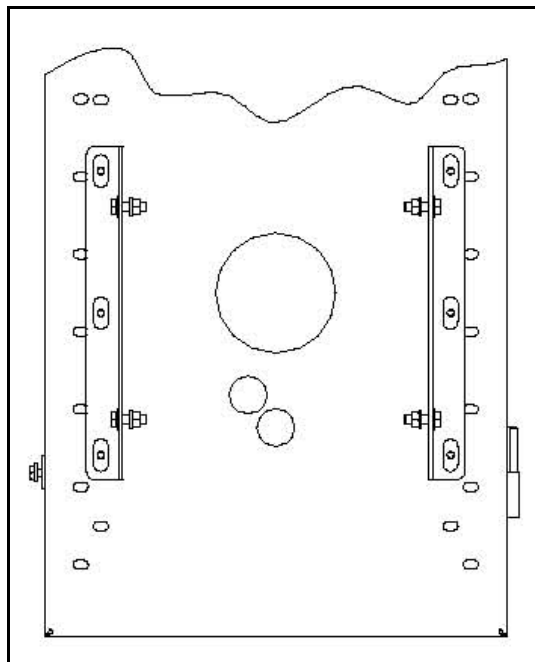

Figure 3.11
2. Using the hardware provided, assemble the two brackets to the back cover as shown in Figure 3.11. Note that the brackets are mounted so that the angles of the brackets are mounted to the inside. Do not fully tighten these bolts.